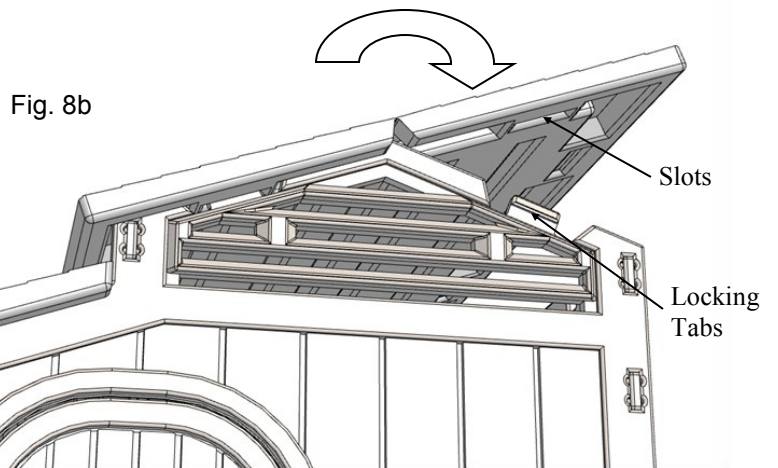
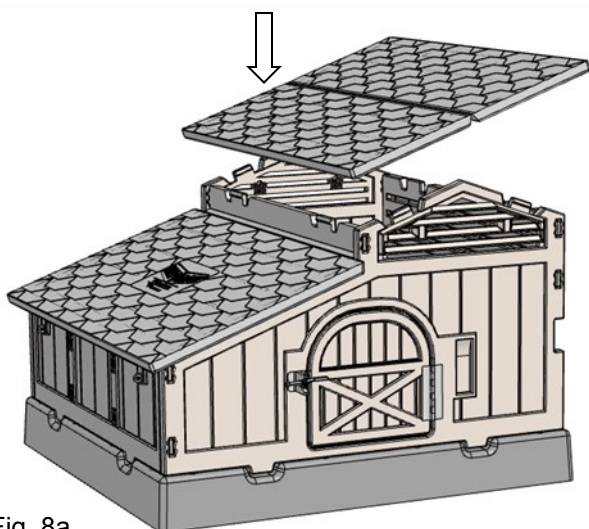
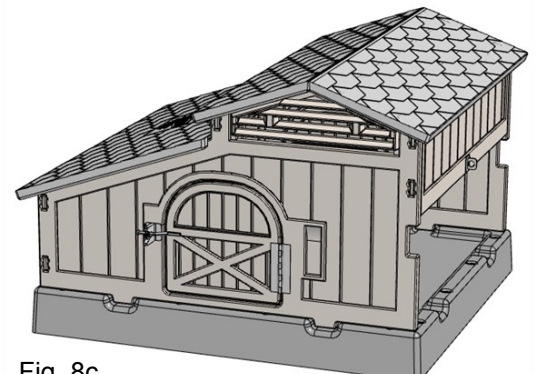

Fig. 8b
Fig. 8a
Fig. 8c
Step 8: The Hip Roof is installed by aligning four of locking tabs (one on the Front Wall, one on the Back Wall, two on the Lid Roof) to the four slots located on one side of the underneath of the Hip Roof and pressing down until all the tabs lock into place (Fig. 8a). Then press down on the other side of the Hip Roof (Fig. 8b), folding it down, until the other four tabs lock into the appropriate slots. (Fig. 8c)